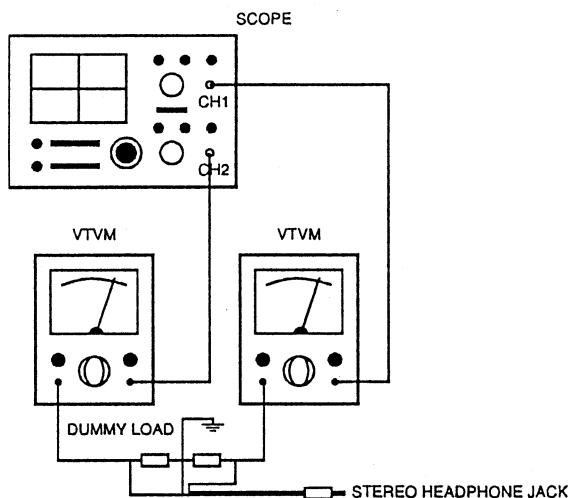

Figure 1. Azimuth Adjustment
1. Connect two (2) VTVMs and a dual trace scope to the stereo headphone jack (as shown) with a 32 ohm dummy load. (See Figure 1.)